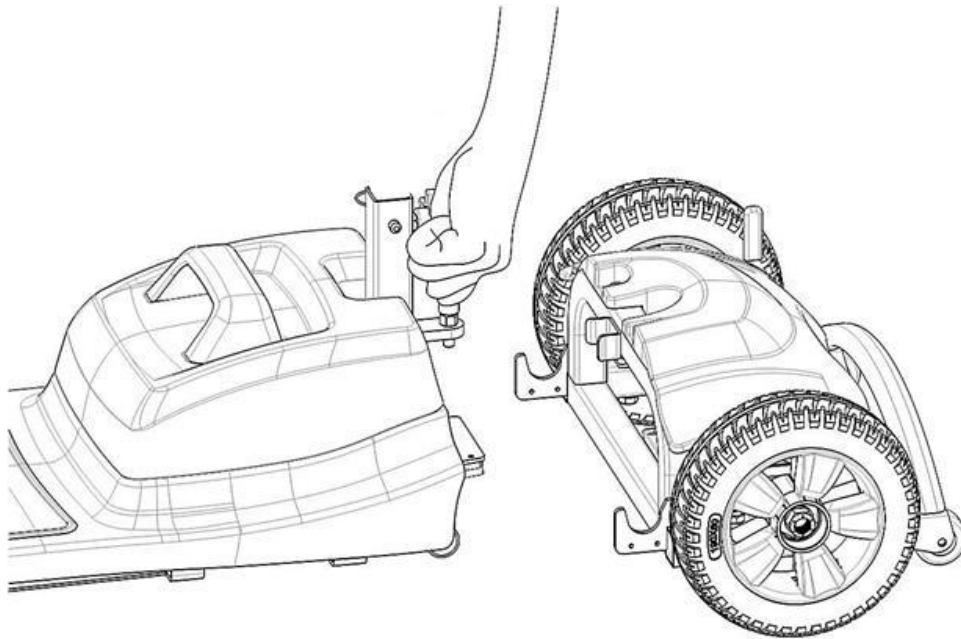

Fig 7.5.1
- Lift the tiller splitter knob. (See Fig 7.5.1) The front and rear sections will then be disconnected.